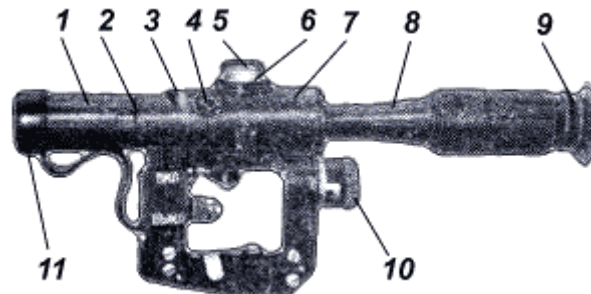

Fig. 7. Sight PS0-1:
1.5.1. The sniper optical sight PS0-1 (Fig. 7) consists of the following main parts: